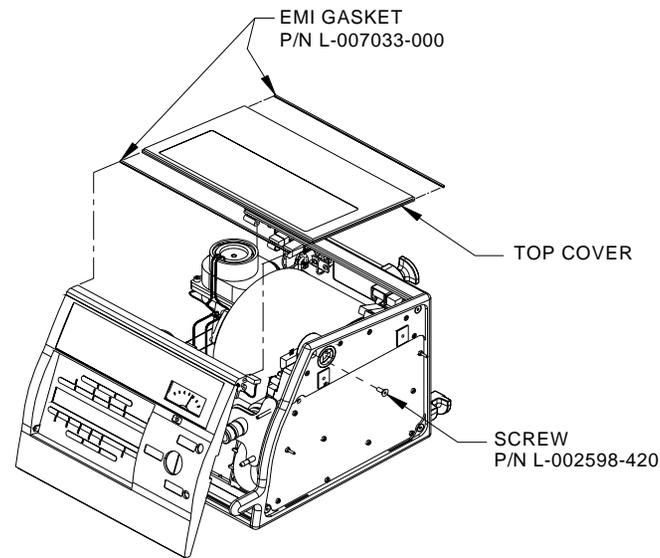

FIGURE 7-1.
6. Use an 1/8-in hex bit and a Makita torque driver set at “5” with the speed range set at “L” (or equivalent) to secure the front panel to the right end assembly using 1, 10-32 x 1/2-in screw (P/N L-002598-420). See Figure 7-1.